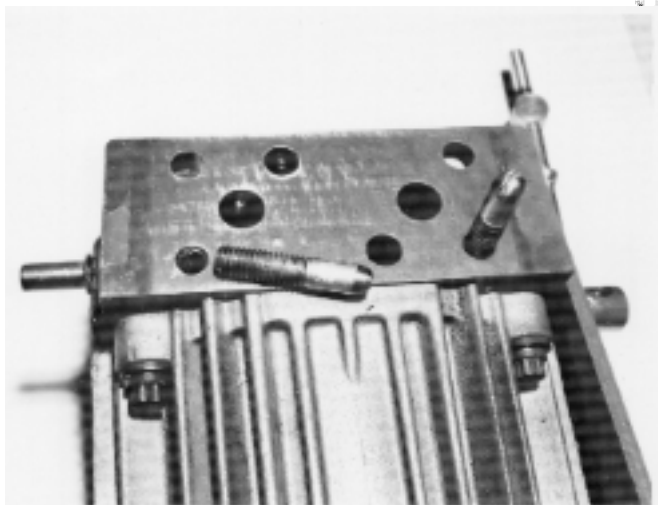

Fig. 5-37 Aligning Pins
4. To facilitate alignment of the pump to the manifold pad, fabricate two aligning pins. Cut the heads off two 3/8-16 x 2 bolts to make two studs. Saw a screwdriver slot and taper the ends as shown in Fig. 5-37.